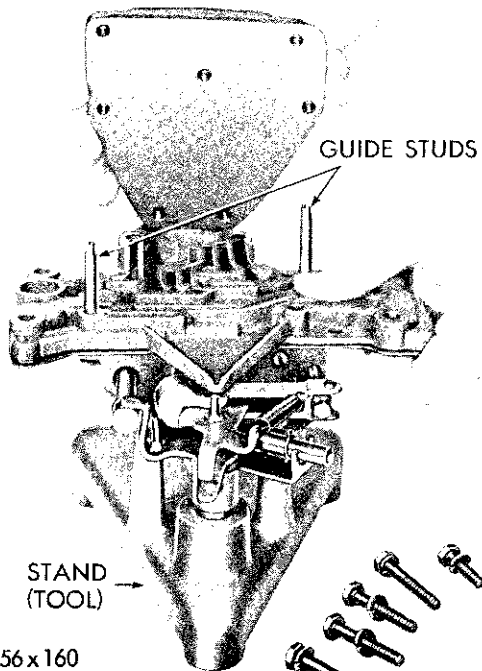

Fig. 43—Valve Body and Transfer Plate Assembly in Stand
(1) Place valve body and transfer plate assembly in stand, Tool C-3294 (if not previously done so) (Fig. 43). **Do not use vise to hold valve body and transfer plate.**
(2) Remove two of the long transfer plate cover bolts and lockwashers and install guide studs, Tool C-3295.
(3) Keeping finger pressure against transfer plate, remove the remaining three (2 long and 1 short) transfer plate cover bolts, and remove transfer plate cover, as shown in Figure 43.